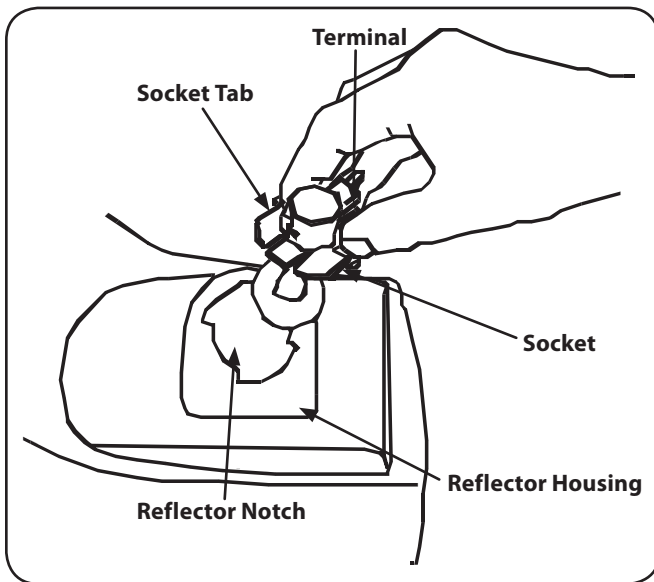

Figure 7-3
3. Rotate the socket assembly approximately $\frac{1}{4}$ turn to align the socket tab with the reflector housing notch; then withdraw the bulb and socket assembly from the reflector housing. See Fig. 7-3.
5. Align a locking post of the bulb base with the notch in the socket, then push the bulb inward and turn clockwise to lock. See Fig. 7-3.